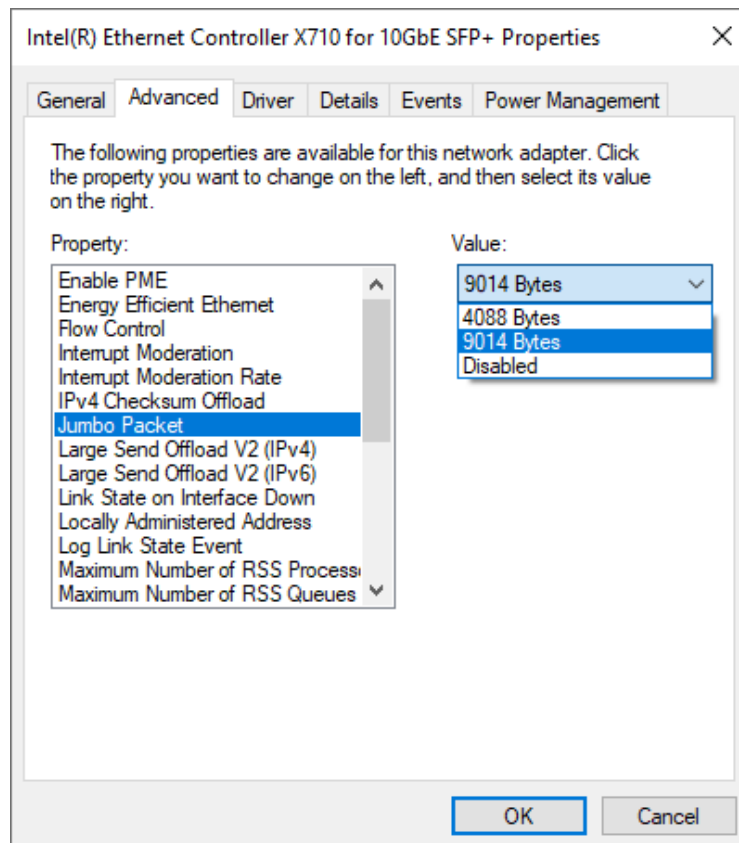

Figure 8 Jumbo packet
3) On “Jumbo packet” window, set value to “9014 Bytes”, as shown in Figure 8.